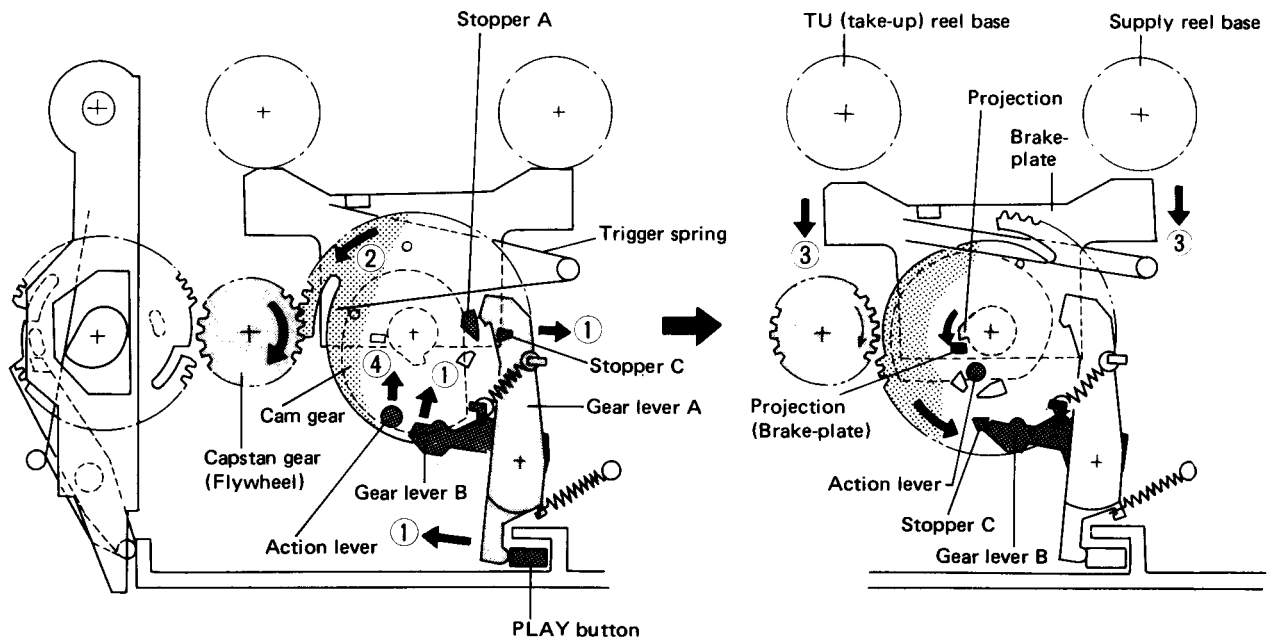
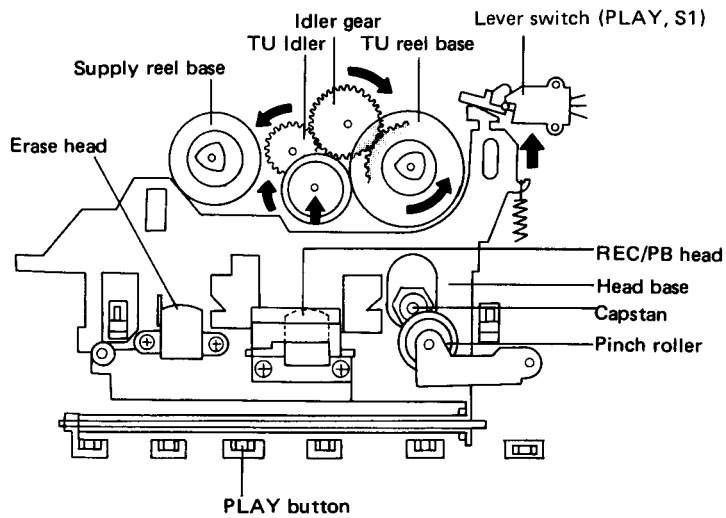

Fig. 13-2 STOP → PLAY operation
Fig. 13-3 PLAY operation
PLAY Operating (Fig. 13-2, 13-3)
1. When the PLAY button is pressed down, the shape of the button forces gear lever A in the ① direction. Also, at the same time, gear lever B travels in the ① direction, and gear lever A and cam gear stopper A are disengaged.
2. The cam gear is forced in the direction ② by the trigger spring. Consequently, it starts rotating in the direction ② (CCW) and meshes with the capstan gear (flywheel).
3. As the capstan gear and cam gear are now engaged, the force transmitted by the motor and flywheel rotate the cam gear further, until stopper C makes contact with gear lever B. It stops in that position. At this point, the capstan gear and cam gear are no longer meshed. (See right side of Fig. 13-2).
4. Now, the projection on the cam gear boss is forcing the brake-plate down in the direction ③, and braking force is released from the reel base.
5. Also, the cam shape of the cam gear is moving the action lever in the ④ direction.
6. The head base is lifted by the action of this action lever, placing it in the PLAY position and throwing the PLAY switch to the PLAY side. (See Fig. 13-3). This action also presses down on the pinch roller pressure spring causing pressure contact between the pinch roller and capstan, and starting tape travel.